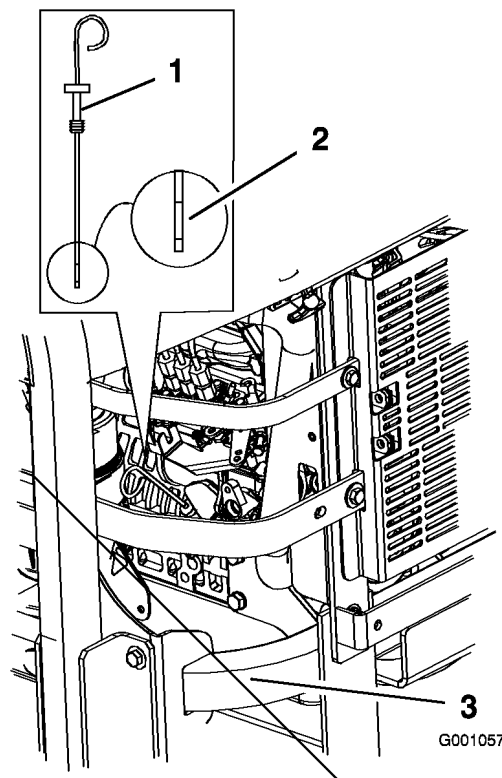

Figure 36
3. Clean around the oil dipstick (Figure 36) so dirt cannot fall into the filler hole and damage the engine.
4. Pull the oil dipstick out and wipe the metal end clean (Figure 36).
5. Slide the oil dipstick fully into the filler tube. Pull the dipstick out and look at the metal end (Figure 36). If the oil level is low, slowly pour only enough oil into the fill hole to raise the level to the full mark.